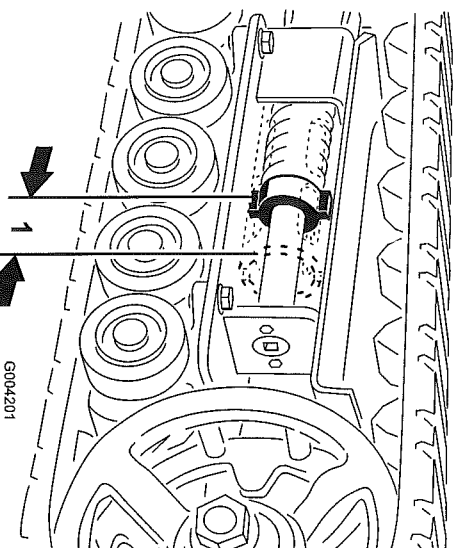
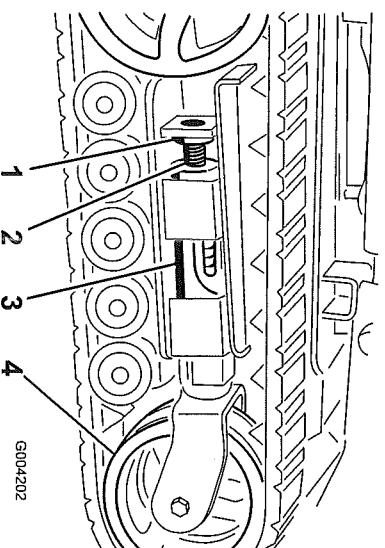
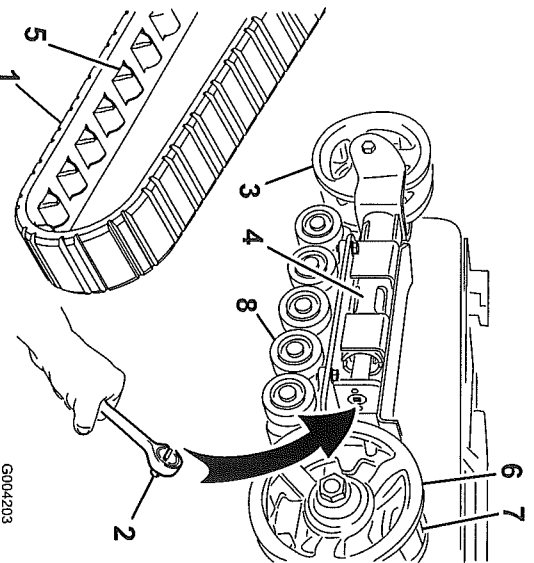
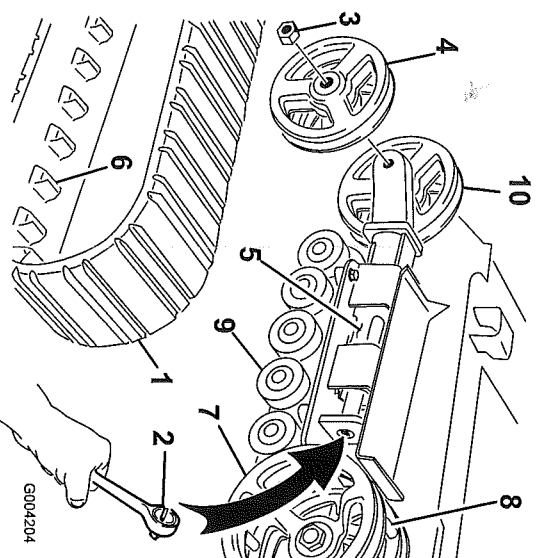

Figure 44
Figure 45
Figure 46
Figure 47
There should be 2-3/4 inches (7 cm) between the tension nut and the back of the tension tube (Figure 44). If not, adjust the track tension using the following procedure:
3. Remove the locking bolt and nut (Figure 45).
4. Using a 1/2 inch drive socket (Figure 46), turn the tensioning screw counter-clockwise until the distance between the tension nut and the back of the tension tube (Figure 44) is 2-3/4 inches (7 cm).
5. Align the closest notch in the tension screw to the locking bolt hole and secure the screw with the locking bolt and nut (Figure 45).
4. Using a 1/2 inch drive socket, release the drive tension by turning the tensioning screw clockwise (Figure 45 and Figure 46).
5. Push the tension wheel toward the rear of the unit to move the fork tube against the frame (Figure 46). (If it does not touch the frame, continue turning the tensioning screw until it does.)
7. When the track is off of the tension wheel, remove it from the drive sprocket and road wheels (Figure 46).
8. Beginning at the drive sprocket, coil the new track around the sprocket, ensuring that the lugs on the track fit between the spacers on the sprocket (Figure 46).
9. Push the track under and between the road wheels (Figure 46).
11. Turn the tensioning screw counter-clockwise until the distance between the tension nut and the back of the fork tube (Figure 44) is 2-3/4 inches (7 cm).
4. Using a 1/2 inch drive socket, release the drive tension by turning the tensioning screw clockwise (Figure 45 and Figure 47).
5. Push the tension wheel toward the rear of the unit to move the tension tube against the frame (Figure 47). (If it does not touch the frame, continue turning the tensioning screw until it does.)
6. Remove the nut securing the outer tension wheel and remove the wheel (Figure 47).
7. Remove the track (Figure 47).
8. Remove the nut securing the inner tension wheel and remove the wheel (Figure 47).
12. Install the inner tension wheel and secure it with the nut removed previously (Figure 47).
14. Install the new track, ensuring that the lugs in the track fit between the spacers in the middle of the drive sprocket (Figure 47).
15. Install the outer tension wheel and secure it with the nut removed previously (Figure 47).
17. Turn the tensioning screw counter-clockwise until the distance between the tension nut and the back of the tension tube (Figure 44) is 2-3/4 inches (7 cm).